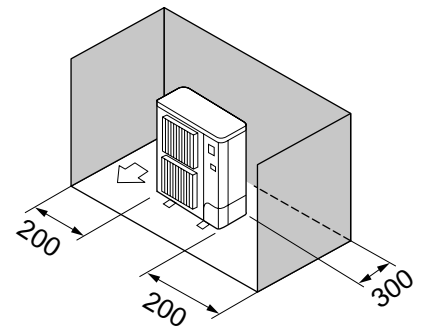

Fig. 2-6
- Obstacles at rear and sides only (Fig. 2-6)